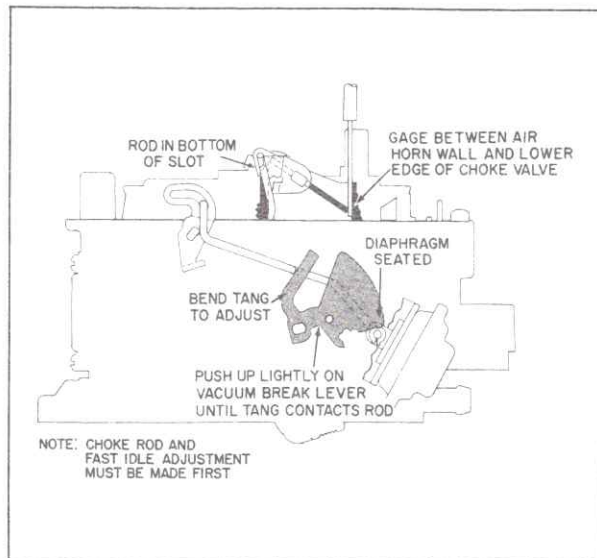

Fig. 6-97 Vacuum Break Adjustment
## 80. Vacuum Break Adjustment (Fig. 6-97)
2. Bend vacuum lever tang, Fig. 6-97, to adjust.